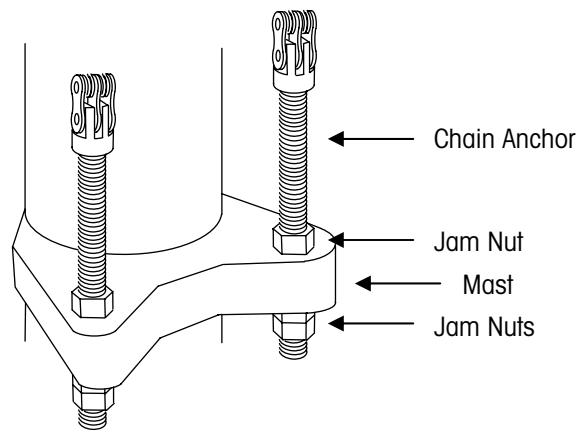

Figure 6-9: Chain Anchor Assembly
9. Disconnect the chain anchor from the mast by removing the lower nut from the threaded anchor (see Figure 6-9).
5. Remove the lower nut from the threaded chain anchor. Insert the threaded chain anchor into the mounting hole in the mast. Place the lower nut on the threaded anchor and tighten it until both it and the upper nut are tight against the mast (see Figure 6-9).
6. Disconnect the two chain anchors from the mast by removing the lower nut from each threaded anchor (see Figure 6-9).
14. Insert each chain anchor into its mounting hole in the mast, and screw a nut onto the bottom end of each threaded anchor (see Figure 6-9). Tighten the jam nuts against the mast to secure the chains.